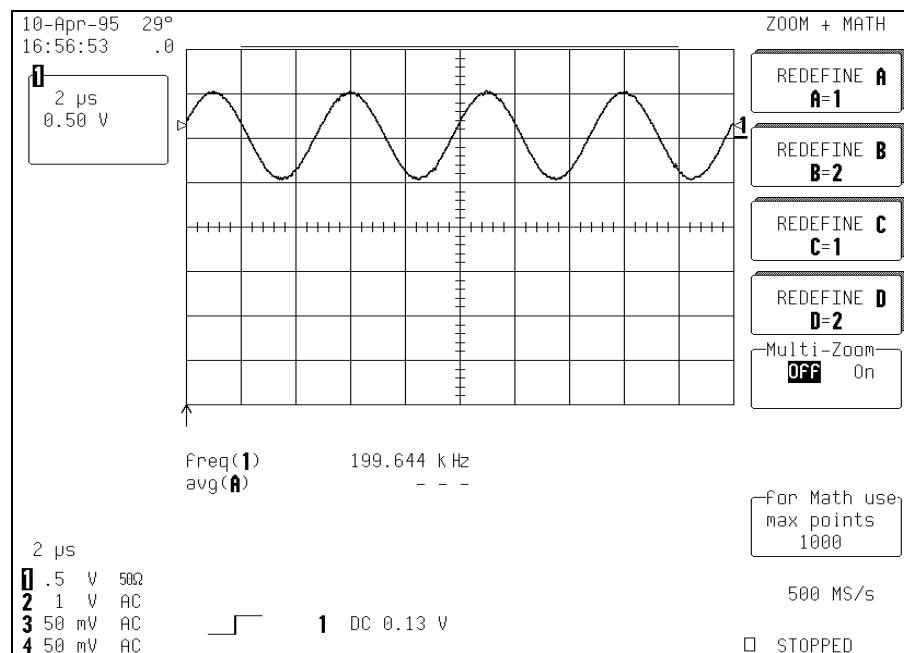

**Figure 2.5**
Histograms are created by graphing a series of waveform parameter measurements. The first step is to define the waveform parameter to be histogrammed. *Figure 2.5* shows a screen display accompanying the selection of a frequency (**freq**) parameter measurement (Annotation ①) for a sine waveform on Channel 1.